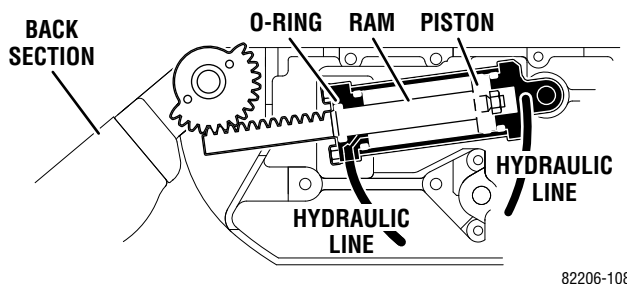

Figure 1-8. Back Section Cylinder
1. Trendelenburg, Back Section and Leg Section Cylinders - The double action cylinders are closed at one end and have a movable piston with hydraulic fluid on both sides. Connected to this piston is a ram or shaft that exits out of the other end of the cylinder. Through the use of a ball and socket, a gear, or clevis and pin arrangement, this ram is connected to a movable table surface. The movable surface can be moved one way or the other by pumping hydraulic fluid into the cylinder on either side of the piston. Obviously, if oil is pumped into one side of the cylinder, a return path must be provided for the oil on the other side. See figure 1-8.